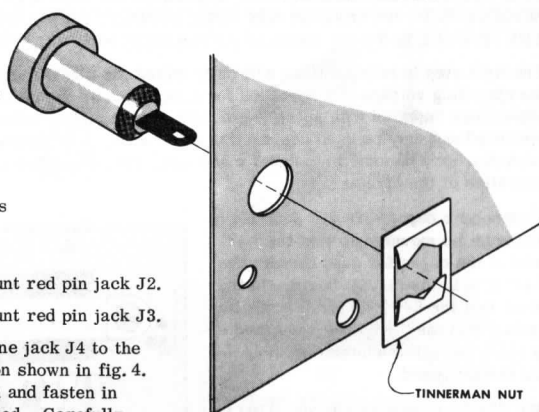
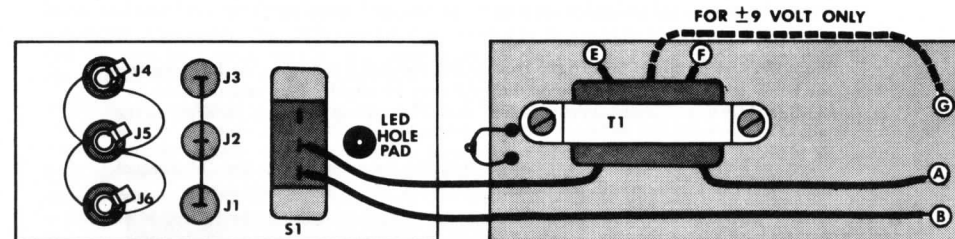

figure 3
figure 4
- ( ) Solder the 3 3/4 inch primary lead to circuit board point "A" as shown in figure 4.
- ( ) Place a red pin jack (J1) in the hole provided as shown in figure 4 and fasten in place with a tinnerman nut as shown in detail figure 3. Press the tinnerman nut down firmly.
- ( ) Mount the miniature phone jack J4 to the front panel in the position shown in fig. 4. Orient the jack as shown and fasten in place with the nut provided. Carefully tighten the nut.
- ( ) Using a 1-1/2 inch length of the bare wire provided make the common connections between pin jacks J1, J2 and J3, as shown in figure 4. Solder all connections.
- ( ) Using a 1 1/2 inch length of bare wire make the common connections between the top lugs of miniature phone jacks J4, J5 and J6, as shown in figure 4. Solder all connections.
- ( ) Using a 2 inch length of bare wire, make the common connections between the ground lugs of miniature phone jacks J4, J5 and J6, as shown in figure 4. Solder all connections.
- ( ) Using two 4-40 X 1/4 inch screws, two 4-40 nuts and two lock nuts, mount the slide switch S1 in the position shown in figure 4. Make sure that the points of the 4-40 nuts do not interfere with the travel of the slide inside the switch.
- ( ) Solder one end of the wire prepared in the previous step to the bottom terminal of S1 as shown in figure 4. In a later step this wire will connect to the circuit board.
- ( ) An insulating "dot" has been provided to prevent the leads of the Light Emitting Diode from shorting against the front panel. Remove this dot from its cardboard backing and apply to the rear of the front panel so that the hole in the dot is centered over the LED hole in the front panel. (see figures 4 and 6.)
- ( ) Slide the second piece of this tubing over the length of insulated wire coming from the "on" side of S1. Slide the tubing up so that it completely covers the solder lug. Solder the free end of this wire to circuit board point "B" as shown in figure 4.